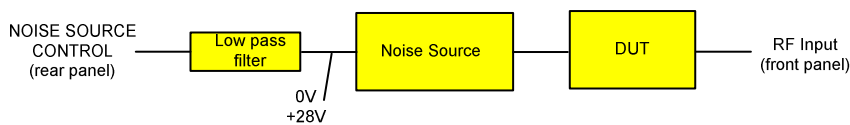

Fig. 2-74: Test setup for the main measurement
1. Insert the DUT (in this example, the amplifier) into the test setup between the noise source and RF input of the R&S FSL (see Fig. 2-74).